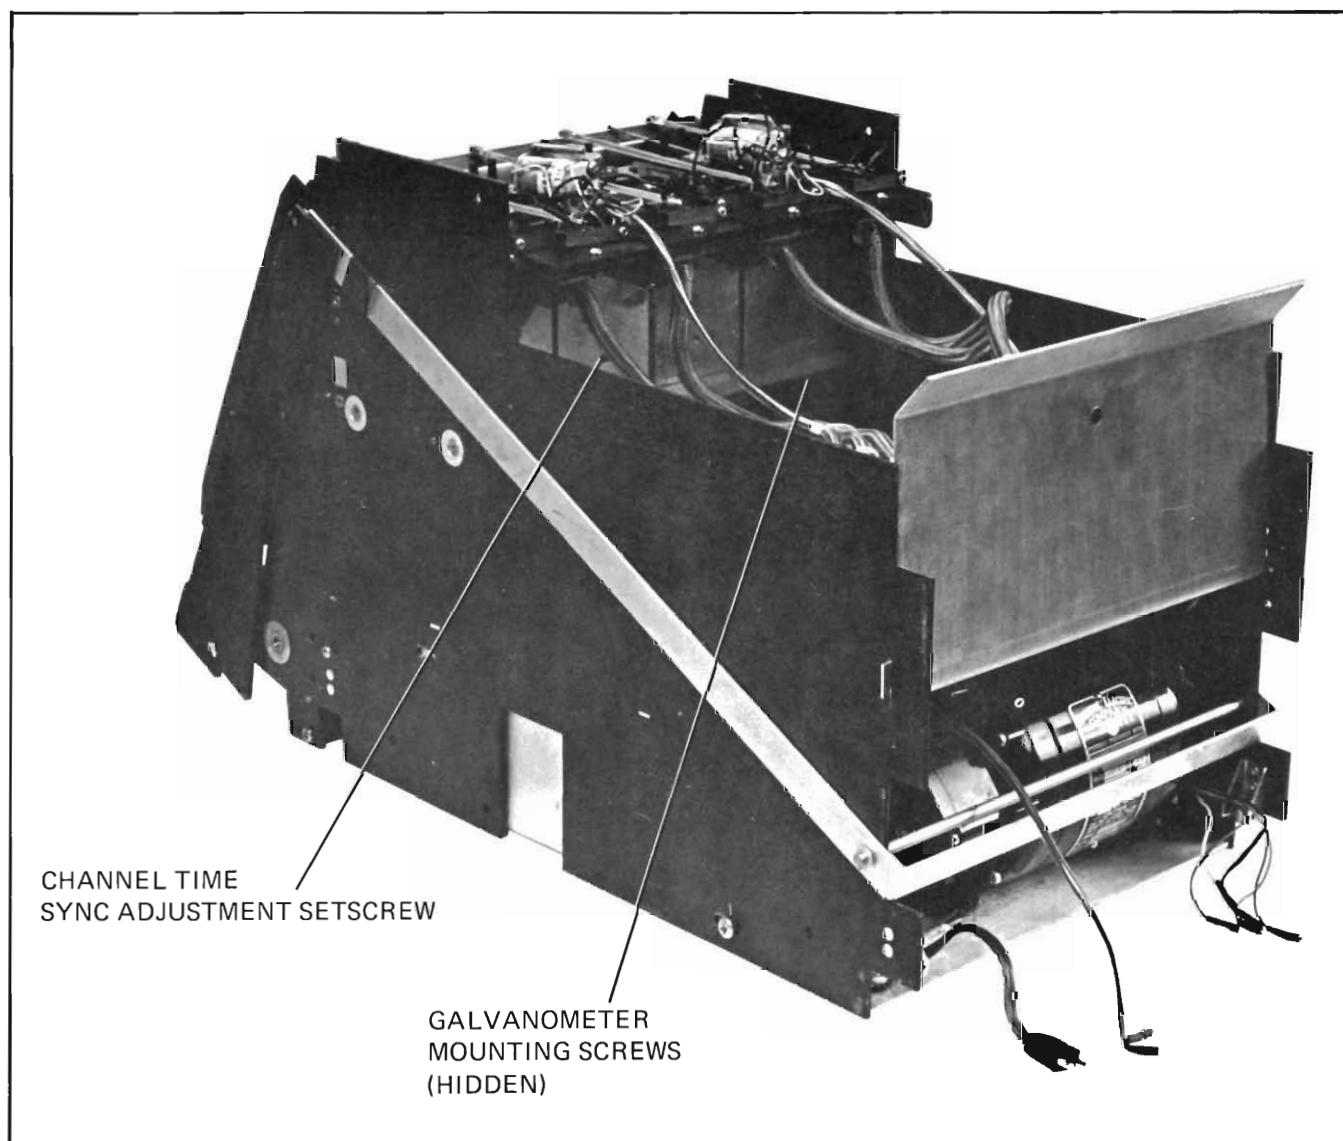

Figure 5-9. Channel Time Synchronization Adjustment
b. With a long Pozidriv screwdriver, loosen 2 galvanometer hold-down screws in each misaligned channel just enough so galvanometer can be moved with adjustment screw (Figure 5-9).
- f. Pass a screwdriver up through galvanometer mounting screw access holes (Figures 5-7, 5-12) and unfasten two galvanometer mounting screws (Figure 5-9). Do not change timing sync setscrew adjustment.